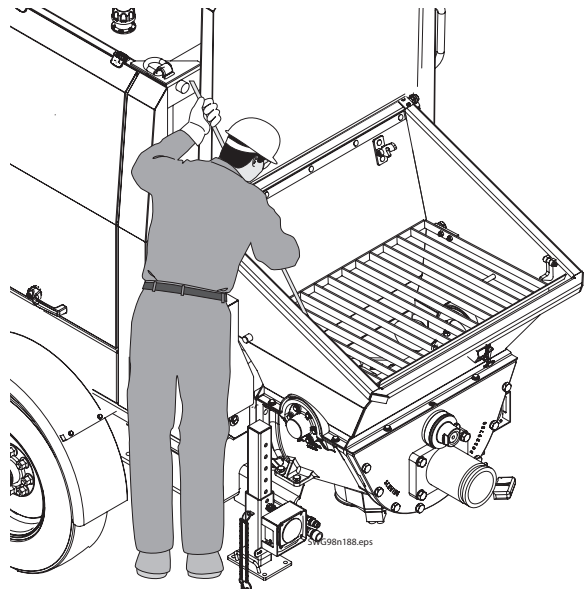

Figure 26
- Poke any material that has set in the corners of the hopper with a piece of rebar or another stiff, long bar (Figure 26). Do not remove the hopper grate for this clean out procedure. This procedure must be done with the hopper grate in place. **Do not spend too much time on this procedure, or the concrete will have time to set up in the rock valve and material cylinders.**